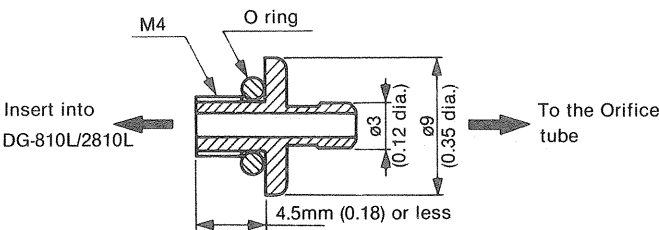
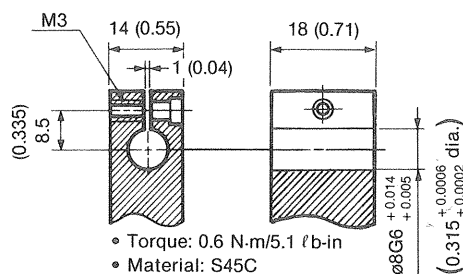

Fig.3 Dimensions of Fitting
Fig.4 Dimensions and Tolerance of Probe Holder (Example)
- **When mounting the probe on a machine by using a holder, prepare the holder with dimensions and material shown in Fig.4, and fix the probe by fastening a screw with a specified torque of 0.6 N.m (5.1 l b-in).** Use the fitting to be attached to the gauging probe as shown in Fig.3. Especially, the length of the M4 screw section to be inserted into the gauging probe should be 4.5mm/0.18" or less. If the screw is too long, the gauging probe may be damaged.